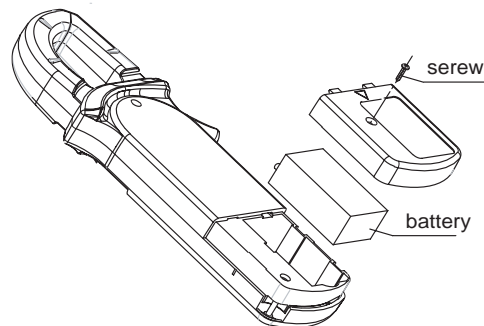

figure 6
B. Replacing the Battery (See figure 6)